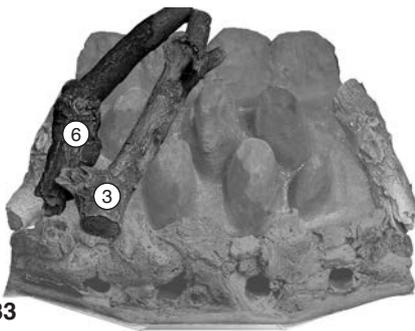

Fig. 33
5. Following Figs. 33 to 39, place the loose logs on to the fuel bed. It is important that the logs 'nest' together and sit on top of the fuel bed peaks.